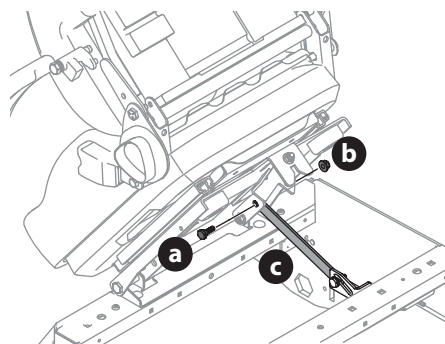

Fig. 9
- Remove the shoulder screw (a) and flange lock nut (b) from manual bag and install the seat lockout bracket (c) (Fig. 9).